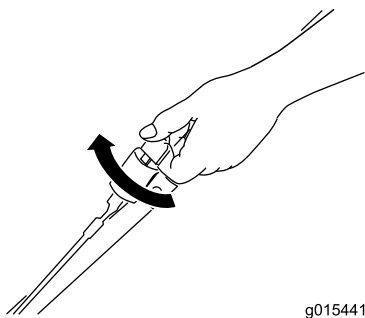
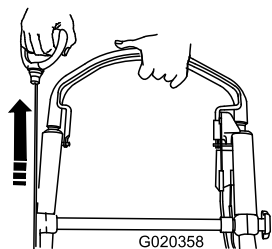

Figure 18
Figure 19
2. Turn the ignition key (Figure 18) or pull the recoil start handle (Figure 19).